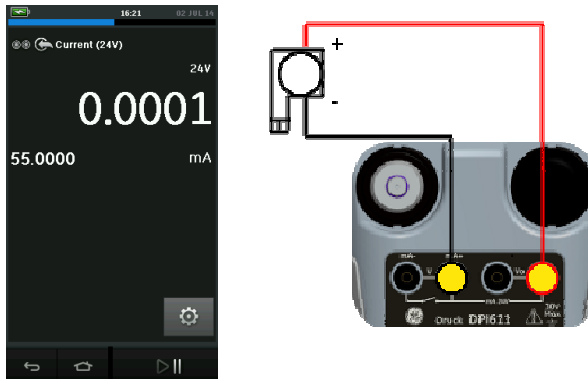

Figure 2-18 Measure current on CH1. Range ± 55 mA
- *Figure 2-18 shows CH1 set-up to measure or source a current with internal loop power.*